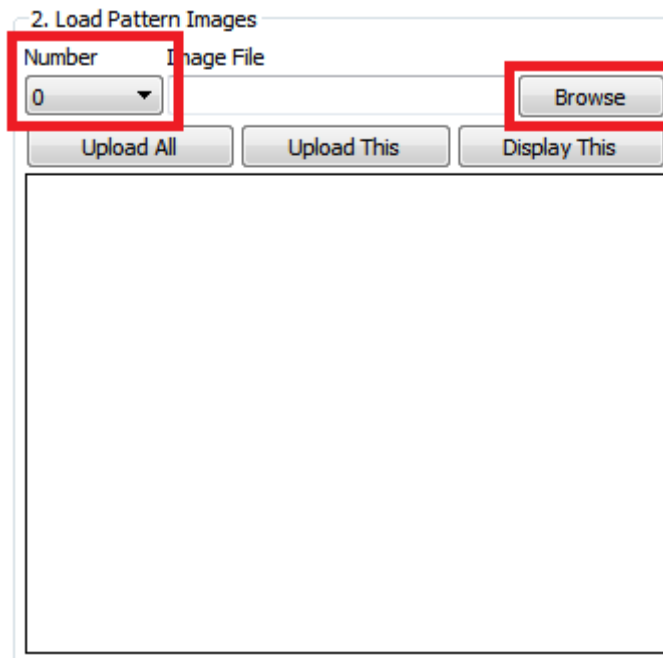
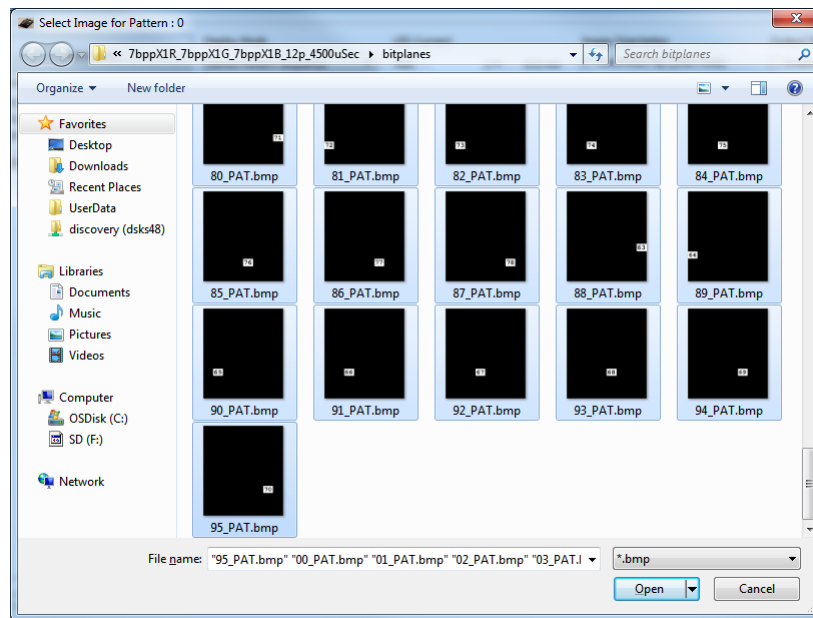

Figure 2-39. DLP LightCrafter GUI Load Pattern Images
Figure 2-40. DLP LightCrafter GUI Select Images Window
5. Click the Browse button to select the number of bitmap patterns matching the bit depth and number previously set. See Figure 2-39 and Figure 2-40.